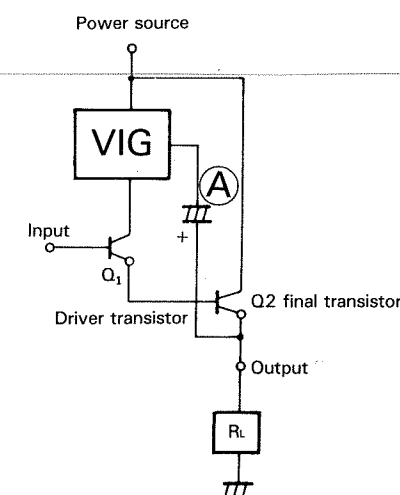
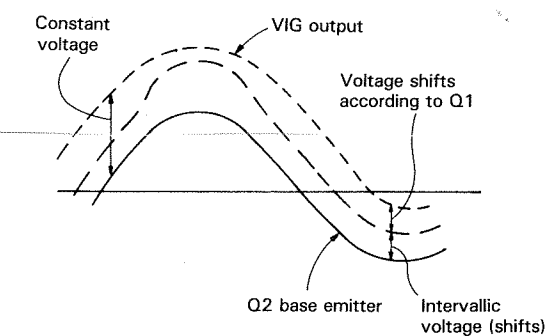

Fig. 1 Configuration of a Conventional VIG Circuit
Fig. 3 VB-E and VIG Output
The configuration of the VIG circuit incorporated in the current KA-990V is depicted in Fig. 1.
In addition to preventing the influx of undesirable power source components (such as ripples) into the Q1 driver transistor, the VIG circuit also applies a bootstrap to the output as shown in Fig. 1 (A). The output from the VIG then follows the output from the amplifier in a constant voltage shift pattern. The input signal is no longer absorbed by the power source according to the potential which exists between the input and the power, and high-frequency characteristics and distortion rates are improved.
Upon further investigation, however, doubts arose concerning operation of the Q2 driver transistor at the abovementioned constant voltage. That is, the voltage across the transistor base and emitter could be thought of as normally about 0.6 volts, but the final transistor voltage shifted between 0.6 to about 2.0 volts in keeping with the output current (see Fig. 3). In the conventional configuration depicted in Fig. 1, this shift caused the voltage applied to the driver transistor Q1 to shift as well. It became clear that with the conventional configuration undesirable power source components were suppressed, but this in turn produced new voltage shift components.
3-1. The sub-frame is the minimum unit of transmitted data. It consists of 32 bits of data obtained by one audio-signal sampling operation. With the CD format the sampling frequency of which is 44.1 kHz, 44,100 data per second are sampled with each of the L and R channels, so that a total of 88,200 data are obtained every second. Each of data obtained in this way corresponds to one sub-frame. (Fig. 1)
3-3. The data is transferred after biphas-mark modulation. With this modulation, bits "1" are inverted twice while bits "0" are inverted once. (Fig. 3)